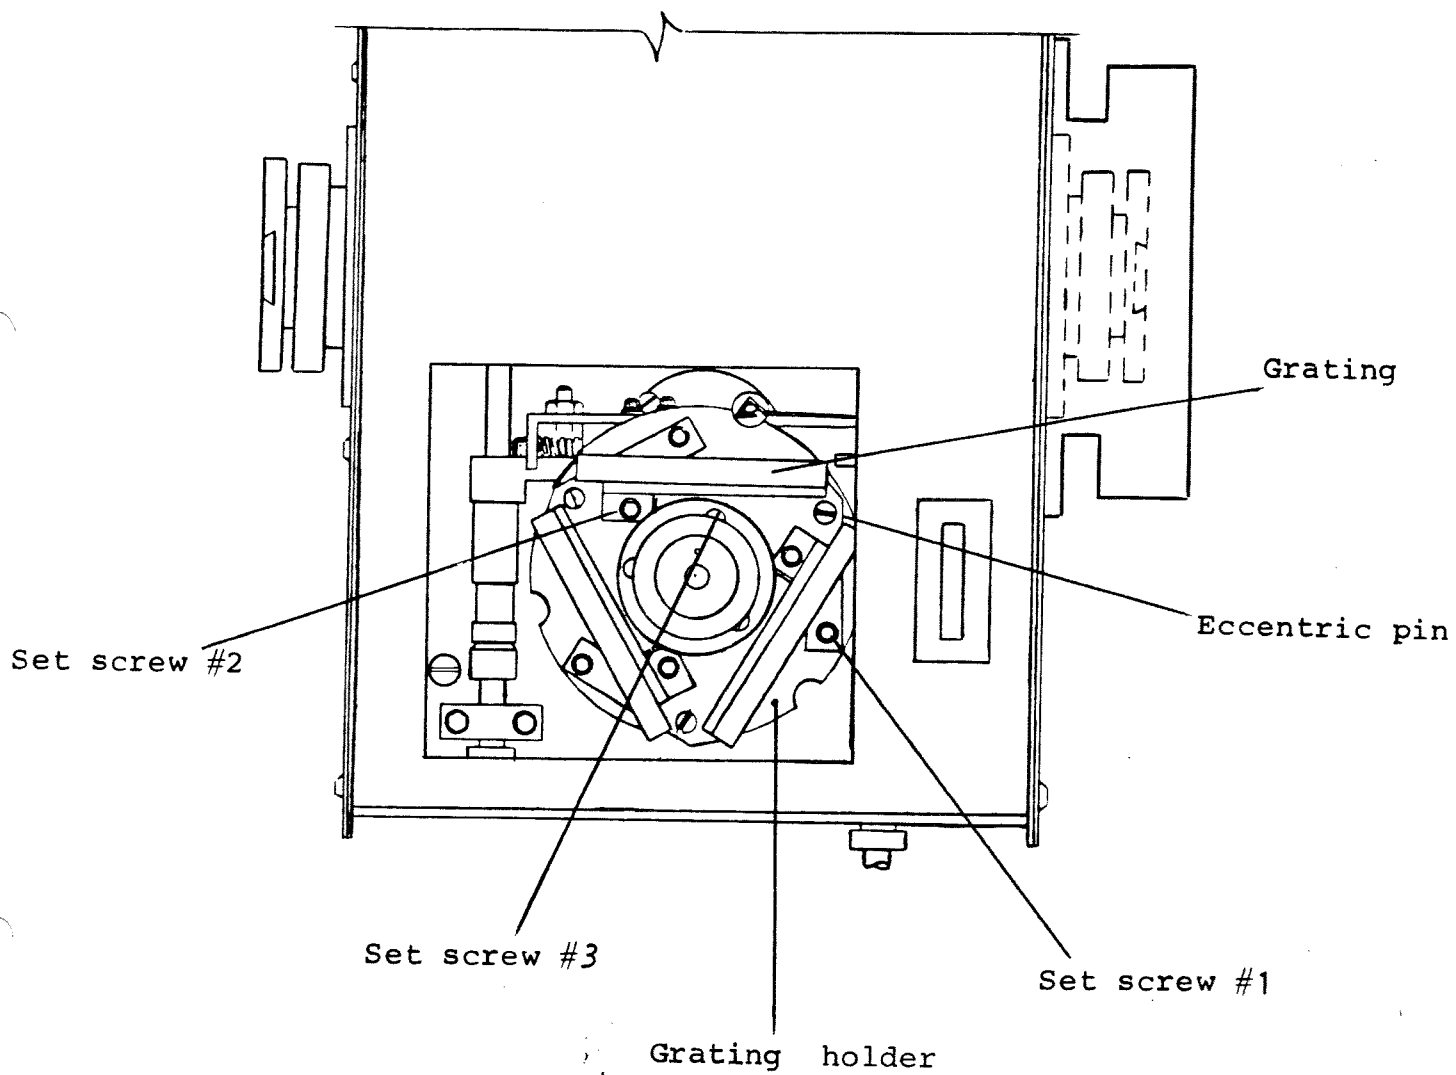

Figure 10. Grating assembly.
31. Correct the beam height on the pin by adjusting set screw #1 on the grating mount, (See Figure 10).